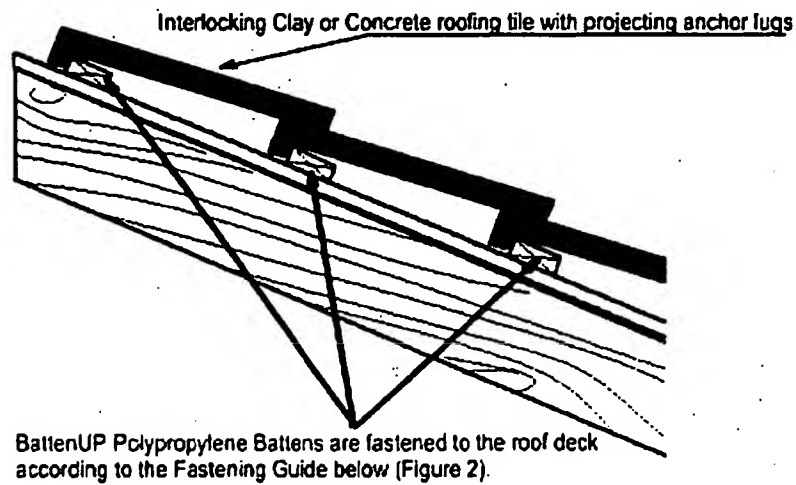

FIGURE 1—TYPICAL SECTION
**2.2.1 Battens:** The battens are made from extruded polypropylene, and are 1½ inches (38 mm) wide by ½ inch thick (12.7 mm), and 48 inches (1219 mm) long. The battens are manufactured with 0.044-inch-thick (1.12 mm) top and bottom flanges, and 0.038-inch-thick (0.97 mm) vertical stiffeners that form openings measuring 0.372 inch wide by 0.412 inch high (9.4 by 10.5 mm) between the top and bottom surfaces of the batten. See Figure 1.
the battens shall be oriented to allow water to drain down the slope and pass through the batten openings. The battens are fastened to the roof deck with minimum 1½-inch-long-by-7/16-inch-crown (31.7 mm by 11.1 mm) No. 16 gage, corrosion-resistant staples spaced at 6 inches (152 mm) on center. The staple crown is installed parallel to the length of the batten (across the vertical stiffeners), starting and ending 1 inch (25 mm) from each end of the batten. The tiles shall be installed with the projecting anchor tile lugs fully engaged with the batten. The tiles shall be attached through the batten to the roof deck and in accordance with the applicable code except for "S"-shaped tiles, for which all tiles shall be fastened. See Figures 1 and 2.